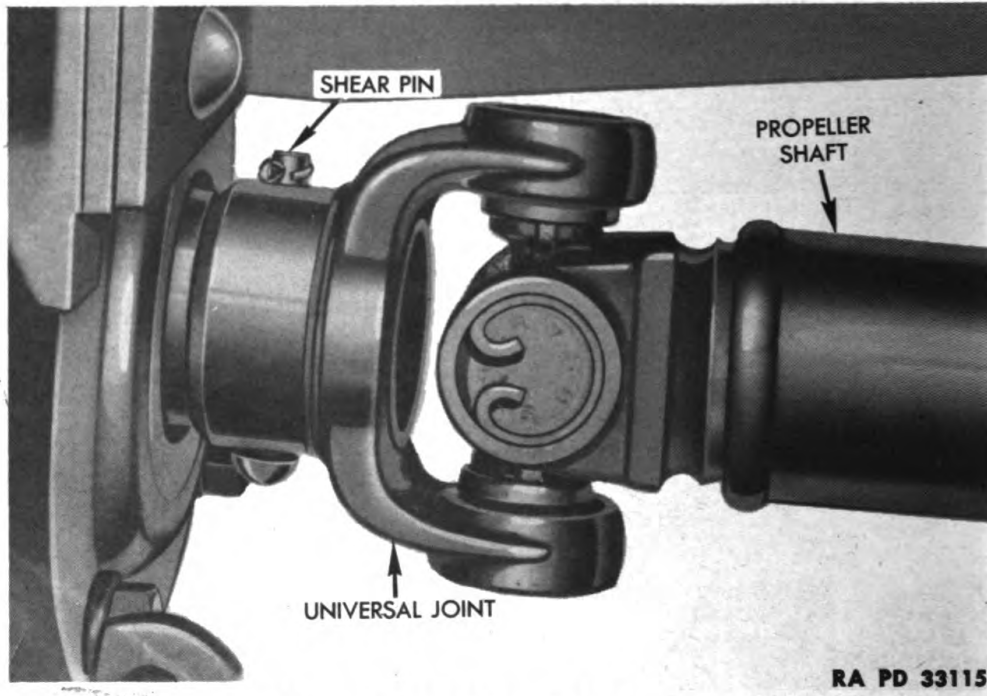

Figure 121—Shear Pin Location
(3) **SHEAR PIN REPLACEMENT** (fig. 121). The winch drive propeller shaft front universal joint is attached to the worm shaft by a soft iron shear pin to prevent overloading of the winch and possible breakage of the winch cable. When the winch is excessively overloaded the pin will shear off, allowing the joint yoke to turn on the worm shaft, thereby releasing the load from the winch. The worm brake will hold the drum and prevent the cable from unreeling. To replace, drive the pieces of the old pin out of worm shaft and joint yoke, line up the hole in the yoke with the hole in shaft, and install a new shear pin and cotter pin. **NOTE: Standard shear pins must be used, as rivets or bolts do not have correct tensile strength to provide the required safety and efficiency.**
(a) **Removal** (fig. 121). Remove cotter pin and shear pin from front universal joint front yoke, loosen socket head set screw in thrust collar at power take-off end of shaft, and slide the drive shaft